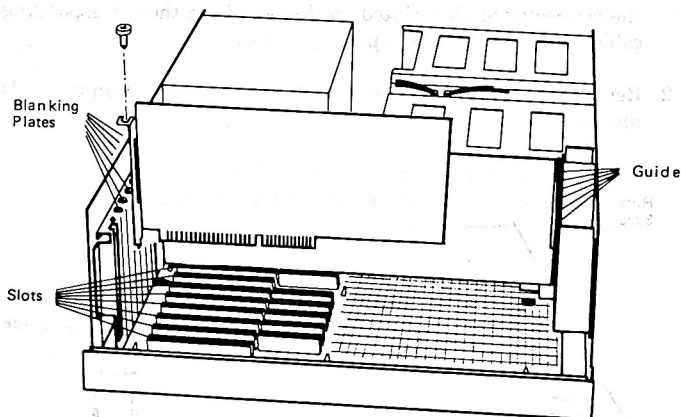

Figure 2-3
1. Remove the blanking plate for the slot you are going to use. Each blanking plate is held in place by a single screw (Figure 2-3).
2. Plug the adapter board into the slot(s) facing upwards from the main processor board. If the adapter board is "full-length", ensure that the edge of the board nearest the loudspeaker drops into the guide (Figure 2-3).